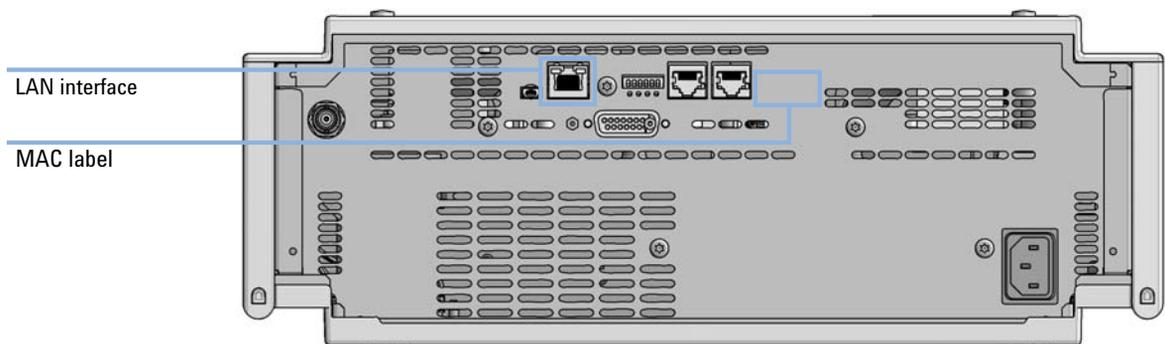

Figure 18 Location of LAN interfaces and MAC label
- 1 Note the MAC (Media Access Control) address for further reference. The MAC or hardware address of the LAN interfaces is a world wide unique identifier. No other network device will have the same hardware address. The MAC address can be found on a label at the rear of the module underneath the configuration switch (see Figure 18 on page 163).
- 2 Connect the instrument's LAN interface (see Figure 18 on page 163) to